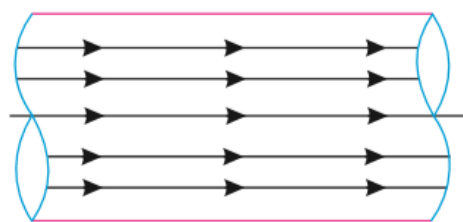

Fig. 5.5. Laminar flow.
**Laminar flow.** A laminar flow is one in which *paths taken by the individual particles do not cross one another and move along well defined paths* (Fig. 5.5), This type of flow is also called *stream-line flow* or *viscous flow*.